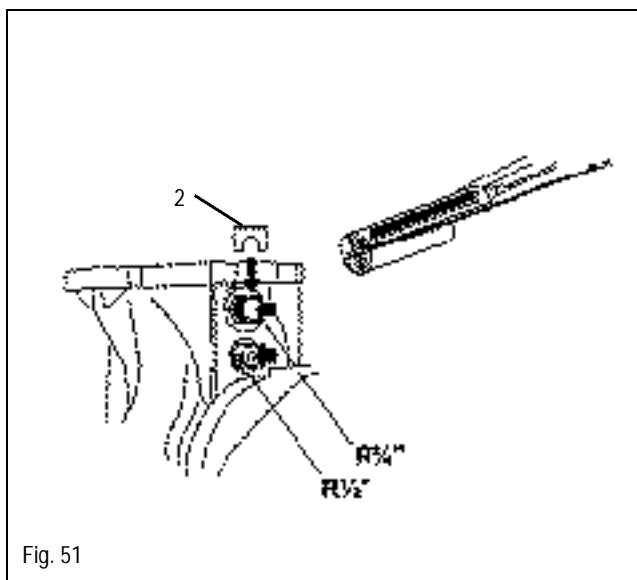

Fig. 51
- Lock sensor bundle in place with metal clip (2)(Fig. 51)